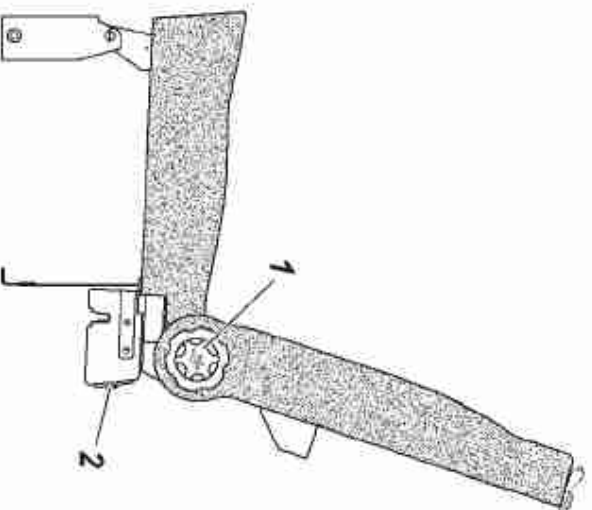

Fig. 3.9. Rear triple seat:
The **rear triple seat** (Fig. 3.9) can be spread out to organize a sleeping area, or folded to increase cargo space.
- turning handles 1 (Fig. 3.9), tilt the rear triple seat backward until it stops;
- turning handles 1 (Fig. 3.9), tilt the rear seat backs forward until they stop;
- unlock the rear seat locks with lock 2 handles (Fig. 3.9);